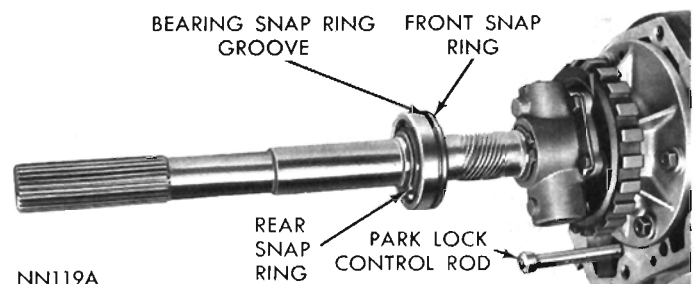

Fig. 32—Output Shaft Bearing
(1) Using heavy duty snap ring pliers C-4020, remove output shaft bearing rear snap ring and remove bearing from the shaft (Fig. 32).
(2) If removed, install snap ring in front groove on output shaft. Install a new bearing on shaft with outer race ring groove toward front (Fig. 32), then install rear snap ring. **To replace the extension housing bushing, refer to INDEX.**